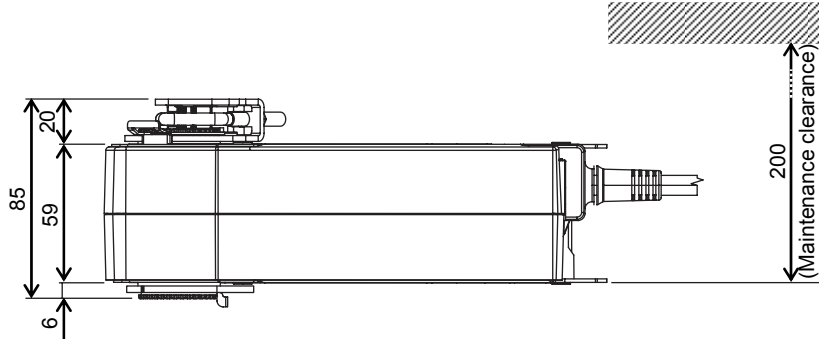

Figure 1. Dimensions and maintenance clearance (mm): Side view
- Leave clearance for maintenance as shown in Figs. 1 and 2. Besides, leave a clearance for a tool (e.g., torque wrench) to tighten the hexagonal nuts of the clamp.